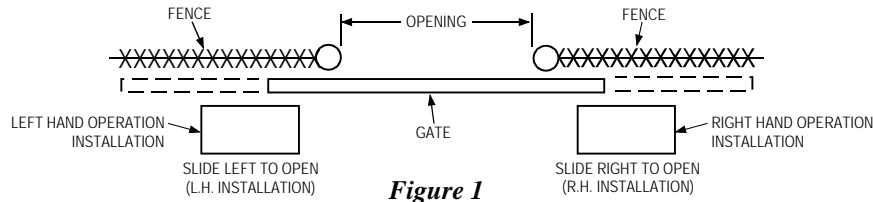
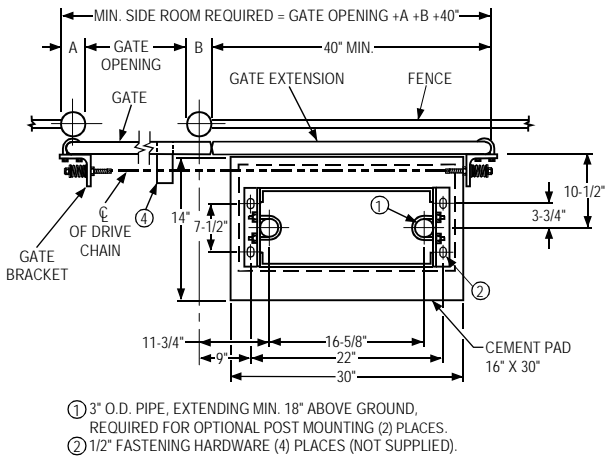
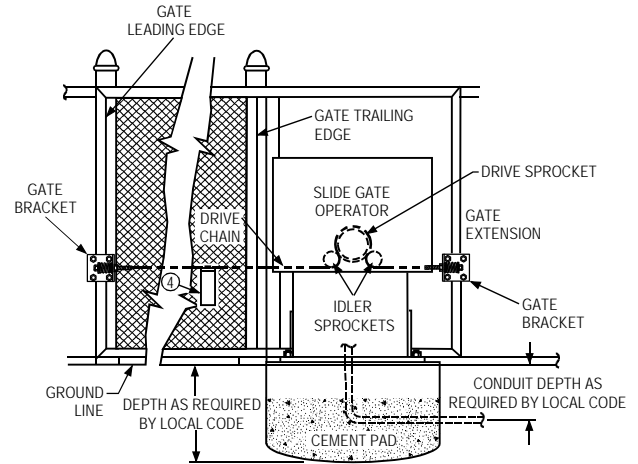

Figure 1
Figure 2
Figure 3
Gate and/or extension must extend beyond the operator location as shown in fig.1, fig. 2, and fig. 3. Operator will be placed as shown, in fig. 1 page 5, for left and right hand installation.
CEMENT PAD: Lay out per drawing (See Fig. 2 & 3). Be sure top surface is level. Allow 2 days cure time before installing operator. Bolt pattern must be parallel to gate as shown in (Fig. 2).
- (2.) Using 1/2" hardware (not supplied), bolt assembled unit to pad, being sure to center unit on cement pad (See Fig. 2 & 3). **Note:** sprockets must face fence.
- (1.) Install gate bracket per figure 2 and 3. Do not fully tighten at this time.
- (6.) Thread free end of chain under first idler sprocket, up and over drive sprocket. then under second idler sprocket as shown (See Fig. 3).
- (8.) Check gate bracket height at both ends of gate to be sure that chain aligns with the operator (*See Fig. 3*).
- (11.) Check chain and sprocket alignment at both ends of gate and tighten 3/4" jamb nuts against gate brackets to secure position (*See Fig. 2*).
Refer to (Fig. 1) to determine hand of operator required for this installation. This unit is factory setup for right hand operation.